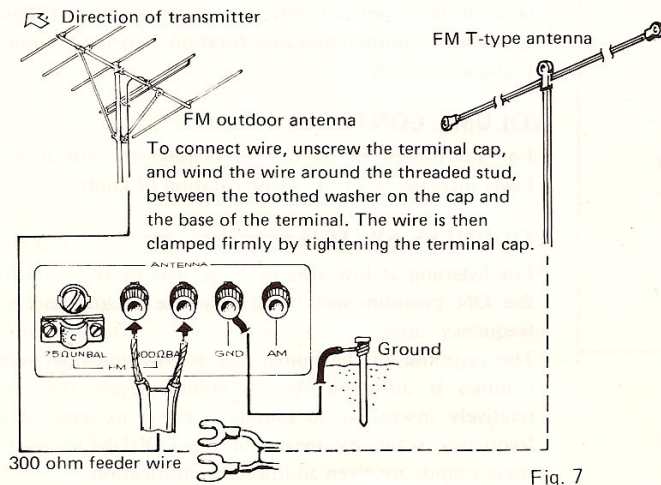

Fig. 7
**FM outdoor antenna:** As shown in Fig. 7, connect antenna feeder wire to the 300 ohm terminals of the SX-5560. While FM reception is in progress, install the antenna and determine the location and mounting providing optimum signal strength. Detailed instructions are contained under, "FM Reception."
**Indoor antenna:** When stations are nearby and in wooden frame buildings, etc., where strong FM signals are received, the accessory T-type antenna can be used. As with the outdoor antenna, the T-type antenna is connected to the 300 ohm terminals of the receiver, as shown in Fig. 7. While FM reception is in progress, spread the ends of the antenna apart and holding it horizontally, turn the antenna through a 180° arc to determine which orientation provides the best signal. Once this orientation is decided, the antenna should be secured in determined direction to a wall or ceiling.
While reception is possible without use of grounding, for the sake of safety and reduced electrical noise, it is recommended that the receiver be grounded by means of the GND terminal, as shown in Figs. 7, 9.